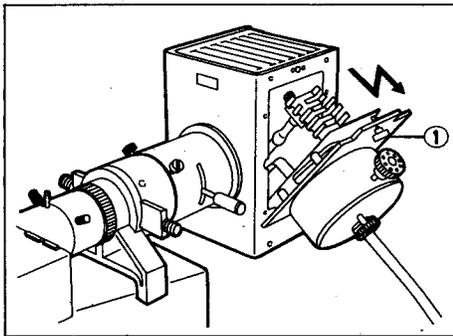

Fig. 2
- (1) Loosen the locking screw ① and remove the bulb socket by tilting it forward and lifting up. (Fig. 2)